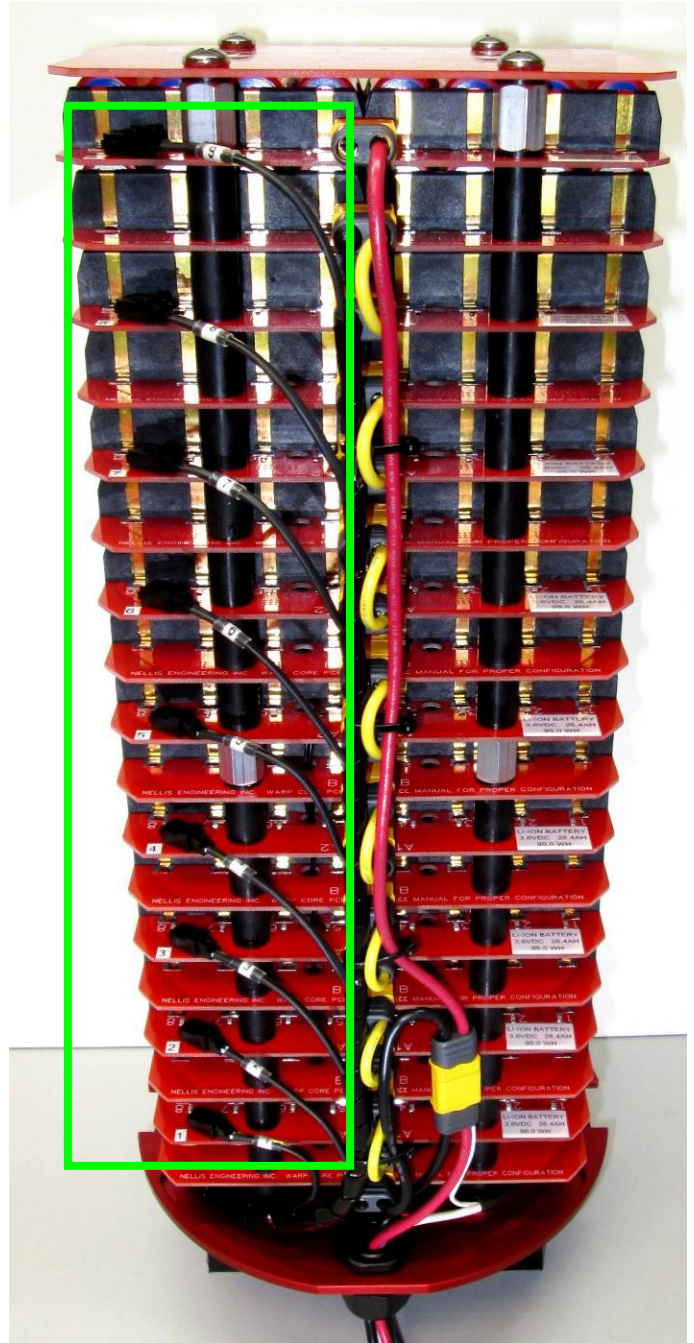

Figure 14
6. Locate the 9 small black connector housings, one on every other battery layer, and verify that the pins are properly aligned in the housing and not bent. If pins are bent, **DO NOT USE A METAL TOOL TO STRAIGHTEN THEM!** Starting with the small black connector labeled **1** on the 2.2 black wire harness (cell voltage sensing), carefully install the small black connectors, **IN NUMERICAL ORDER – 1,2,3,4,5,6,7,8,9** into the mating connector with the same number. (Figure 14 – green outline) #1 should be on the second layer from bottom and #9 should be on the top as shown, skipping layers between connectors.
2. Remove the 9 small black connectors from the battery layers (Figure 14) in **REVERSE NUMERICAL ORDER - 9,8,7,6,5,4,3,2,1** A small latch on each connector must be pressed to remove each connector.